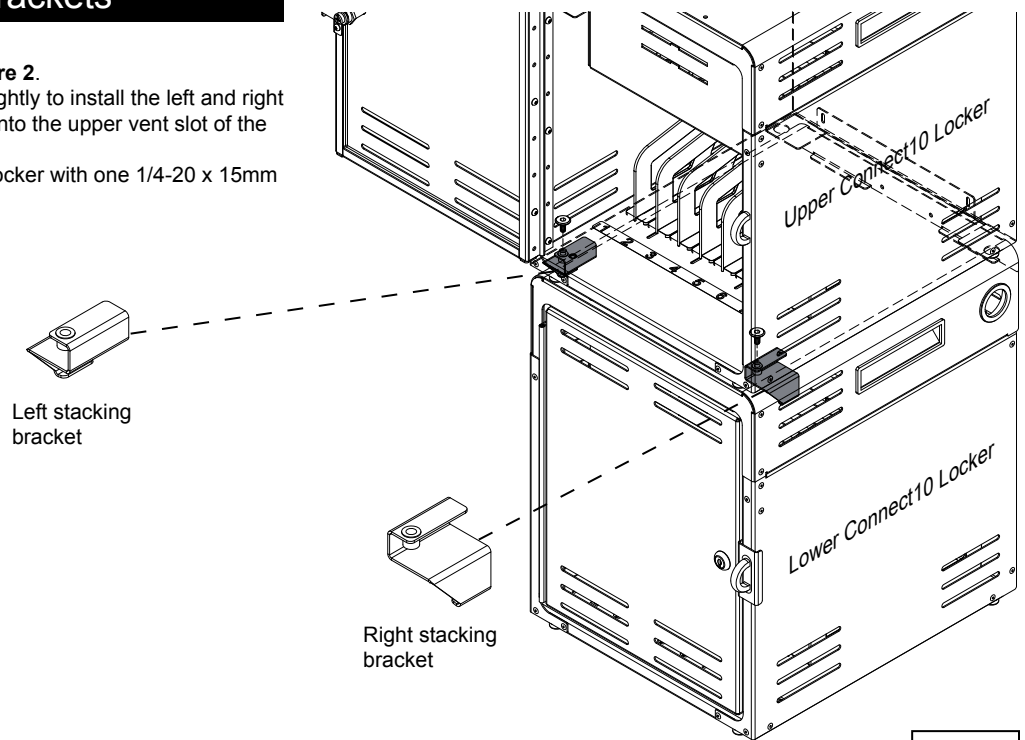

Figure 2
1. Open the upper Connect10 door. **Figure 2.**